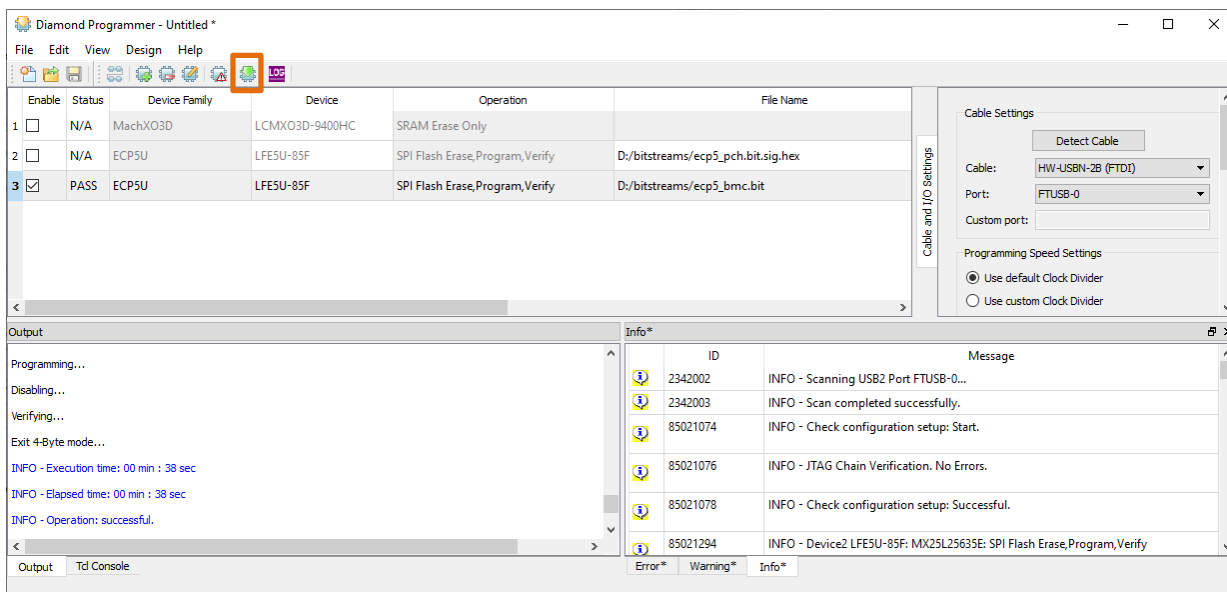

Figure 4.9. Flash Program Operation
3. Program the Flash as shown in Figure 4.9.